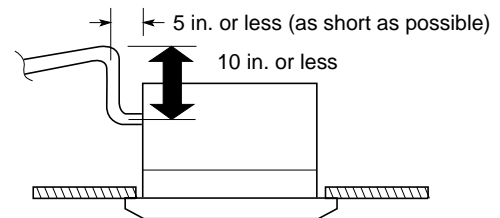

Fig. 3-9
- If it is necessary to increase the height of the drain pipe, the section directly after the connection port can be raised a maximum of 10 in. Do not raise it any higher than 10 in., as this could result in water leaks. (Fig. 3-9)